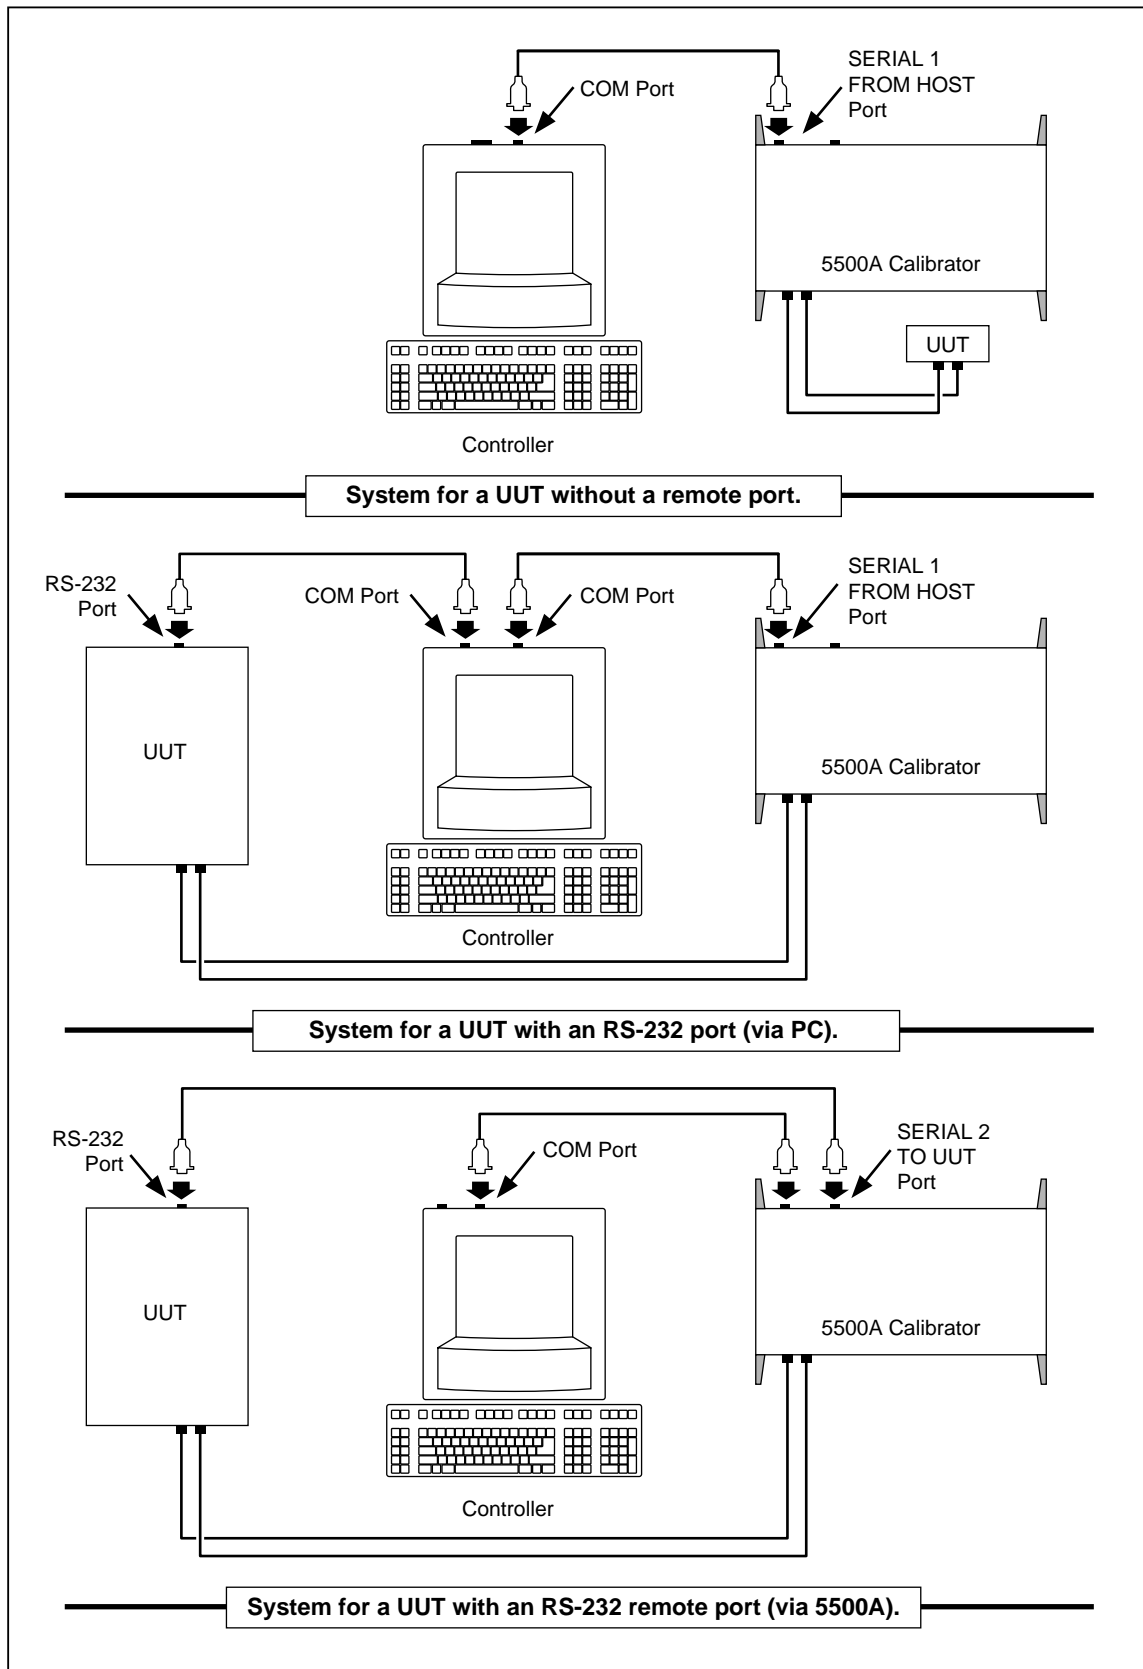

Figure 5-2. Typical RS-232 Remote Control Connections
**RS-232** The SERIAL 1 FROM HOST serial port connects the PC and 5500A Calibrator, while the SERIAL 2 TO UUT serial port acts as a pass-through port, passing commands from the PC to UUT via the 5500A Calibrator. You can write your own computer programs using the command set, or operate the PC as a terminal and enter individual commands, or you can purchase optional Fluke MET/CAL or 5500/CAL software for RS-232 system operations. Typical RS-232 remote configurations are shown in Figure 5-2.
The 5500A Calibrator is fully programmable over an RS-232 link with a PC the rear panel SERIAL 1 FROM HOST port (Figure 5-2). You can enter individual commands from a terminal, write your own programs using, for example, a Windows-based language such as Visual Basic, or run optional Windows-based Fluke software such as 5500/CAL or MET/CAL.